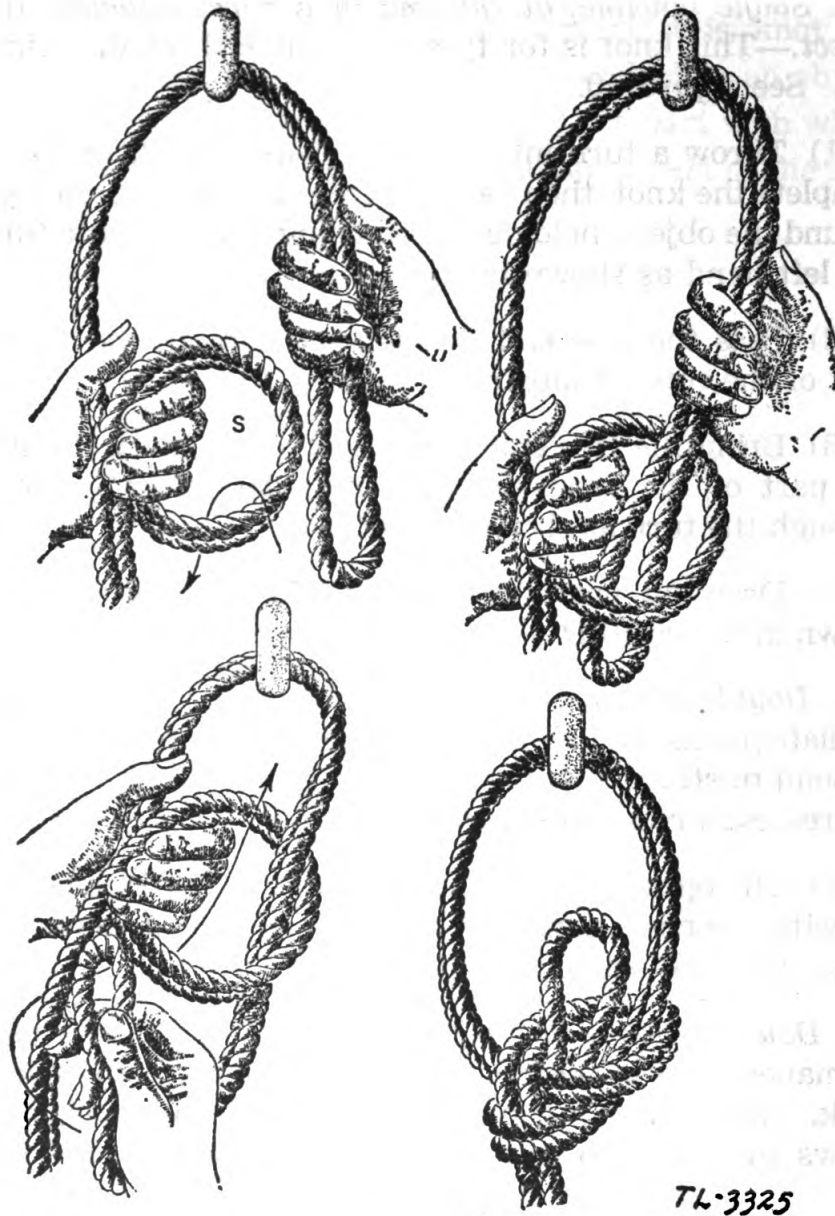
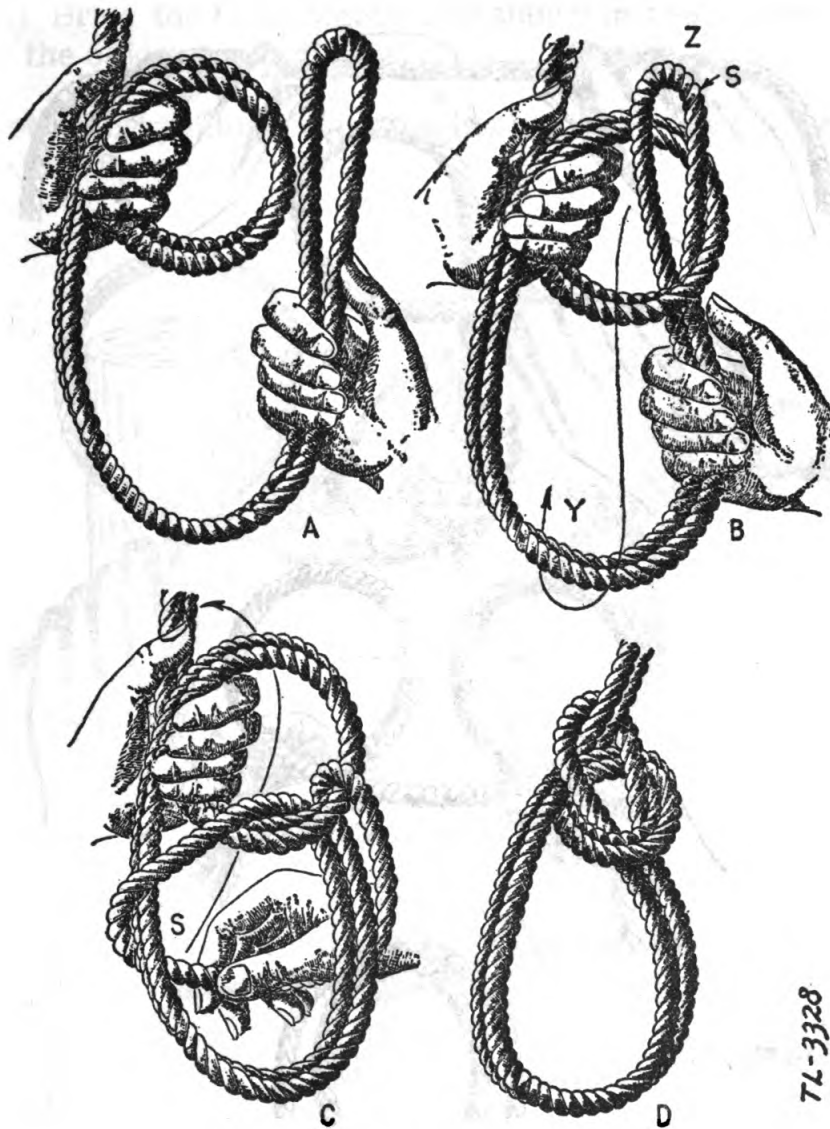

Figure 11
Figure 12
h. Double bowline.—This knot is used in tying at intermediate points, and allows two ropes to pass through the eye or point of strain, thereby doubling the strength at the point of greatest stress. See figure 11.
(1) The operations required to make this knot are identical with the operations of the single bowline, at the end of a rope, attached to an object.
i. Double bowline on a bight.—This knot is used as a semi-permanent eye in the middle or end of a rope, to engage a hook, clevis or some other similar fastening. This knot allows two ropes to pass through the fastening. See figure 12.
(1) Double the rope and throw a turn into it leaving sufficient end to complete the knot as shown in 12-A.
(2) Pass the end through the turn, as explained for a single type bowline, until the position shown at *Z*, is reached as shown in 12-B.
(3) Turn the bight *S*, down over the front and then up in back of turn *Y* as shown in 12-C.